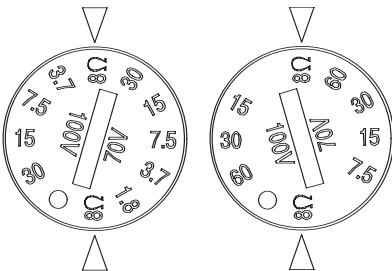

Figure 19: Adjust tap selector (left: C4.2/C8.2/C8.2LP; right: C10.1/C8.2HC)
Step 7: Adjust Tap Selector (Figure 19)